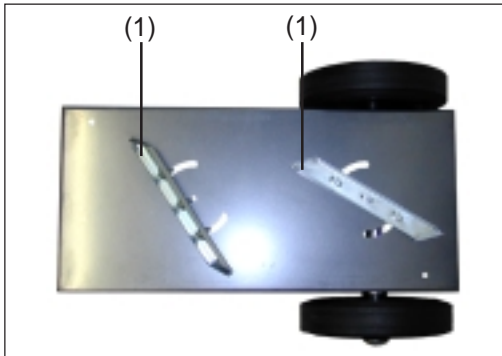

Fig.16 Insert the catches
**NOTE!** When fitting the two handle plates together (1), make sure that the catches (2) on the underside of the handle plates (1) slot completely into place (Fig.16 and Fig.17)